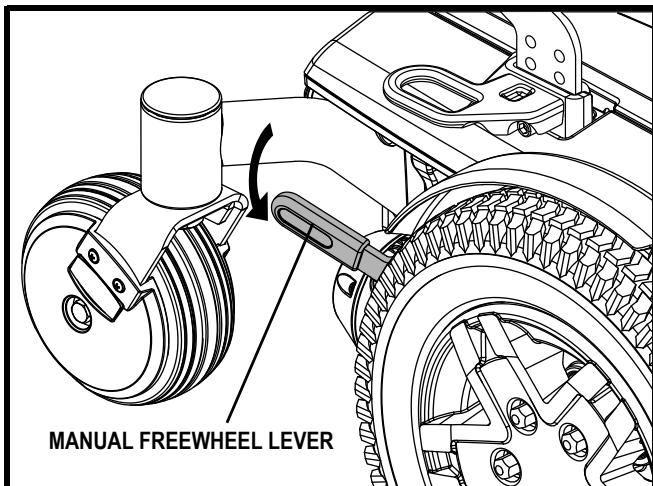

Figure 4. Freewheel Mode (Drive Disengaged)
1. Push down both manual freewheel levers for freewheel mode (drive motor disengaged). See **figure 4**.